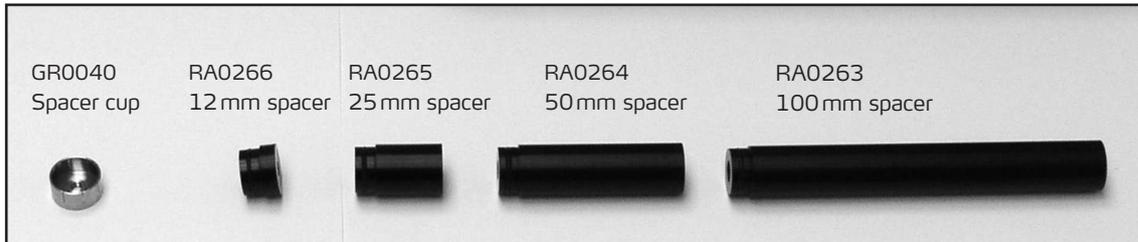

Fig. 6. The various spacers supplied with the 50GI-R.
- Four solid spacers of various lengths and a spacer cup (see Fig. 6)
To cover the wide frequency range (30 Hz - 10 kHz), Type 50GI-R Sound Intensity Probe is delivered with four solid spacers of various lengths and a spacer cup Fig. 6.